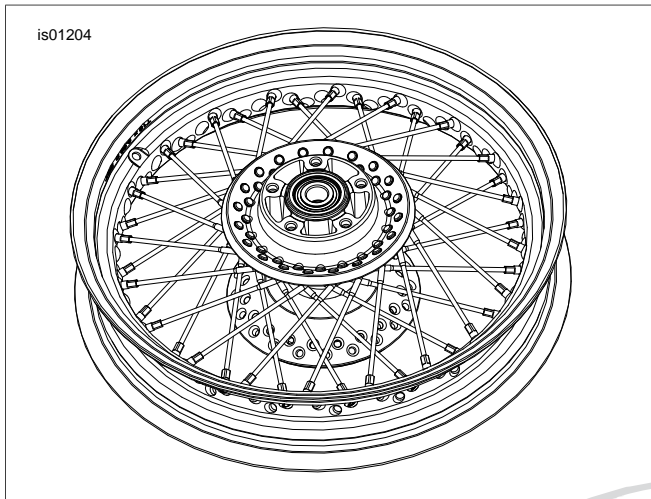

Figure 7. Install Inner Spokes
- See Figure 7. Place the first **inner** row spoke into the hub. Angle the spoke counterclockwise crossing **four** outer row spokes. Loosely assemble the spoke nipple.